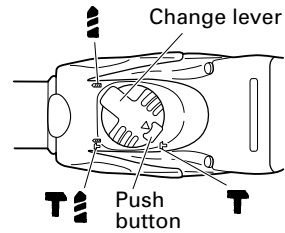

Fig. 12
This rotary hammer can be set to hammering only mode by pressing the push button and turning the change lever to **T** mark. (Fig. 12)
- (3) Turn the change lever to **T** mark. (Fig. 12)